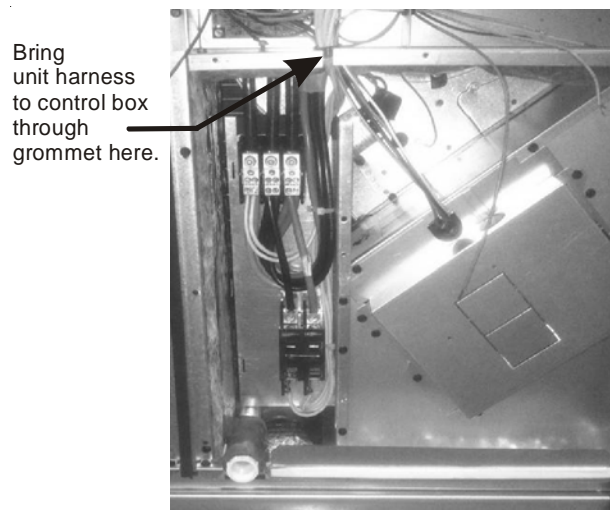

Figure 7
9. Route the unit wiring (the wires connected to the breaker and the shorter green wire) into the control box through the grommet on the bottom. See Figure 7.